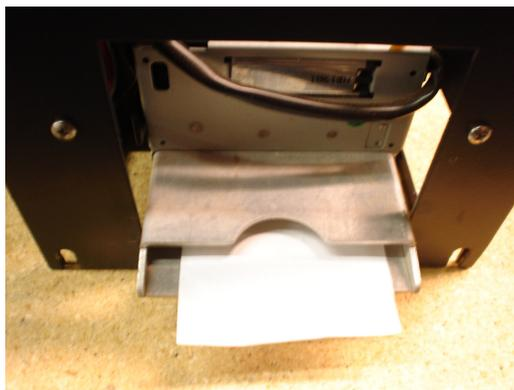

Figure P4: AC7074 Printer – Front View, Paper Fed Through
3. Wrap the paper under the "Paper Guide," and begin to feed it into the "Paper Slot." You do not need to fold or cut the paper in any way; it should be left square in the front. Continue to feed the paper into the slot, through the print head, until it passes out through the front of the machine (refer to Figure P4).